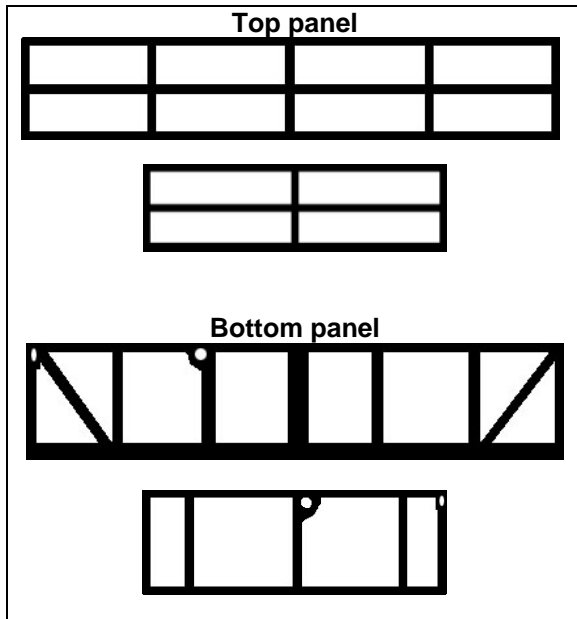

FIGURE 50 TOP AND BOTTOM PANEL INSTALLATION - SIKA 206 G+P APPLICATION
4. Apply Sika 206 G+P on panel as shown in FIGURE 50;